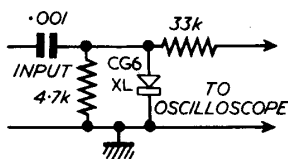

FIG. 1 DIODE PROBE
2. Connect oscilloscope (with gain at max.) to Test Point 'B' via a suitable diode probe (See Fig. 1).